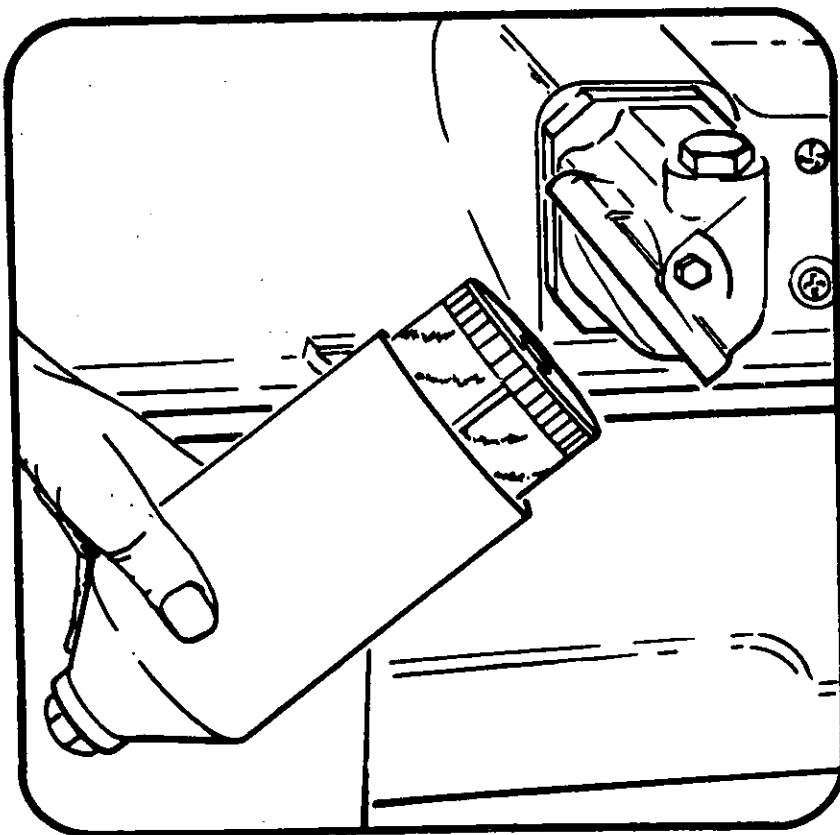

Fig. 3
2. Lower filter bowl clear. (See Fig. 3).